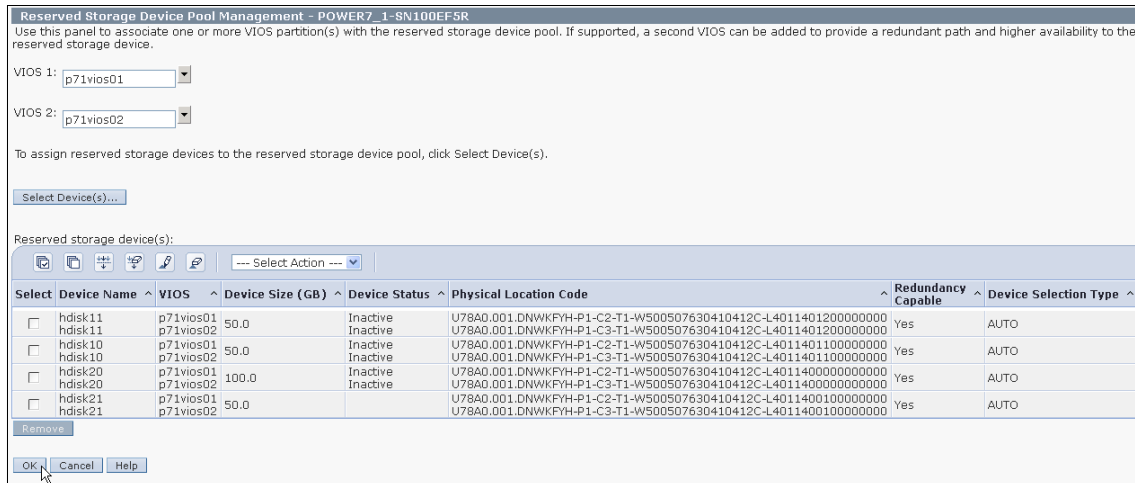

Figure 13-7 Adding a device to the reserved storage device pool validation
- Review the list of devices in the reserved storage device pool as shown in Figure 13-7. Click **OK** to complete the device addition operation.